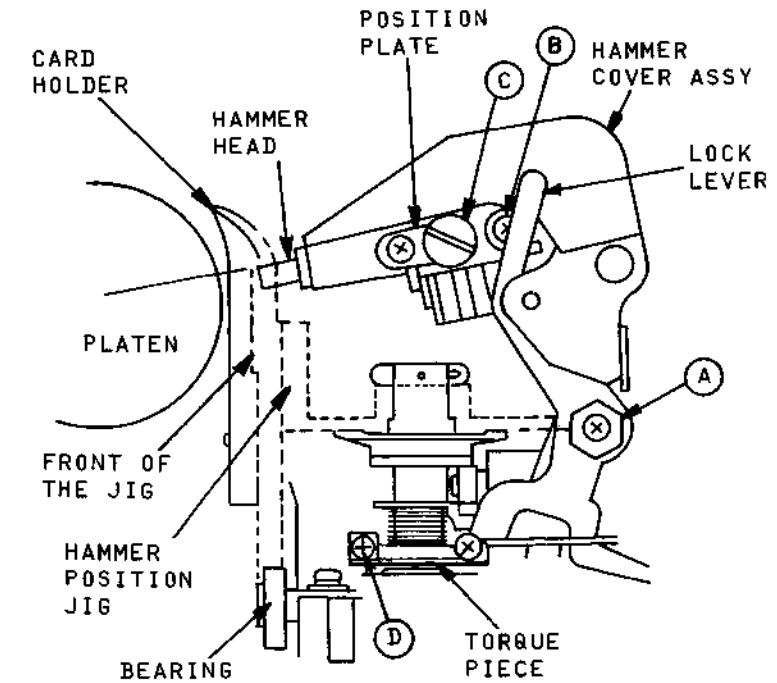

Figure 5-1 Print Hammer Adjustment
- a. Refer to Figure 5-1. Loosen the screw securing eccentric stud A.
5.2.2 Hammer Position Adjustment (Figure 5-1).
- b. Loosen the holding screws B and C on both sides of hammer (Figure 5-1).
- c. To adjust, loosen screw D (Figure 5-1) of the torque piece and rotate the torque piece for proper alignment.